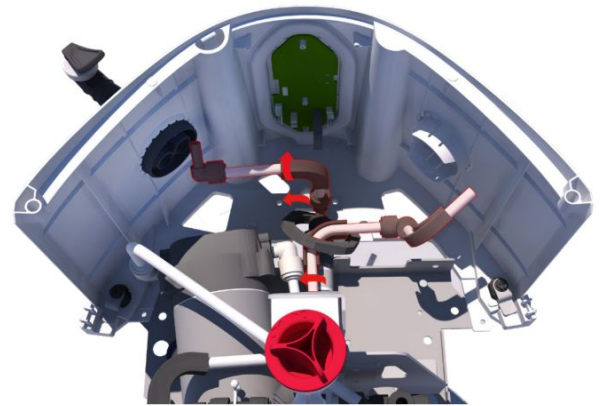

Fig 6
4. ROTATE the Dispense tubing over to the Dispense Tap on the RIGHT hand side. (Fig 6)